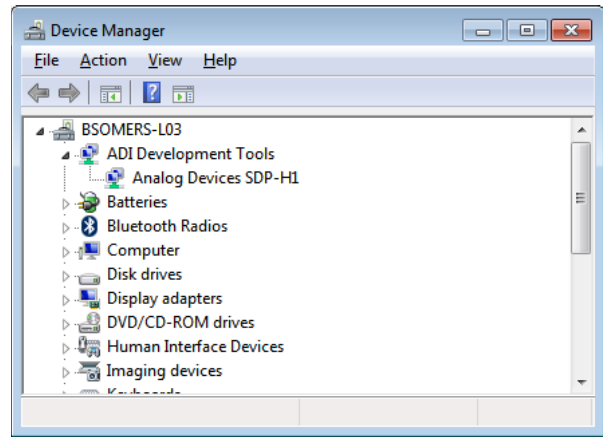

Figure 9. **Device Manager** Window
2. Navigate to the **Device Manager** window on the PC (see Figure 9).
4. The **Computer Management** window opens. From the list labeled **System Tools**, click **Device Manager**. If the SDP-H1 driver is installed and the SDP-H1 is properly connected to the PC, **Analog Devices SDP-H1** is shown in the **ADI Development Tools** list in the **Device Manager** window, as shown in Figure 9.